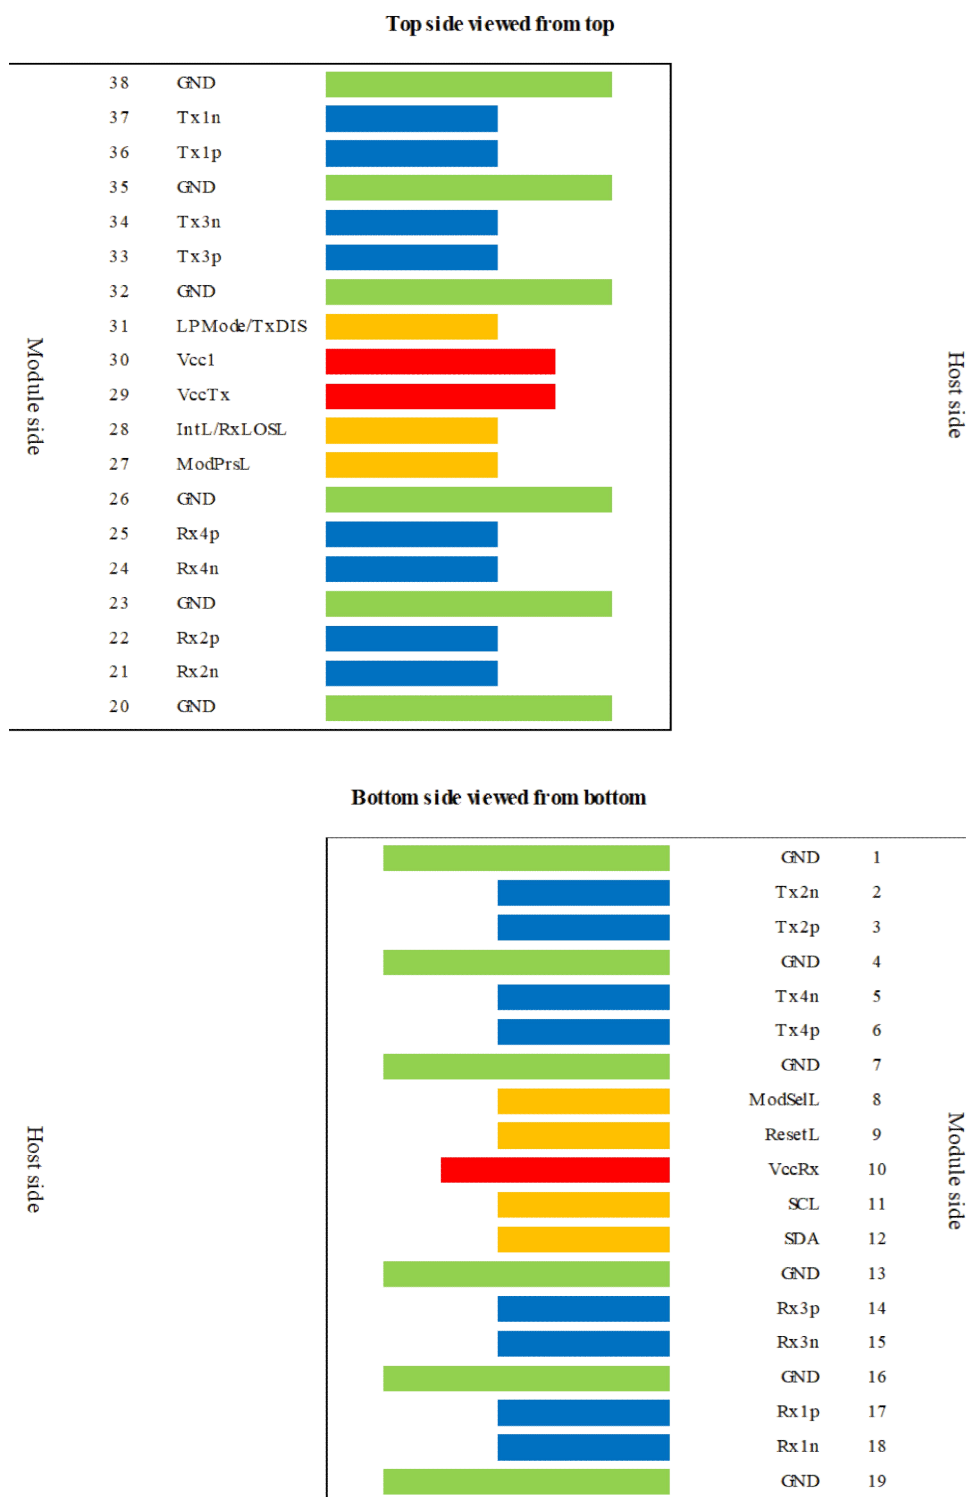

Figure 1 QSFP28-compliant 38-pin connector (per SFF-8679)
3. Plug Sequence specifies the mating sequence of the host connector and module. The sequence is 1, 2, 3 (see Figure 1 for pad locations).